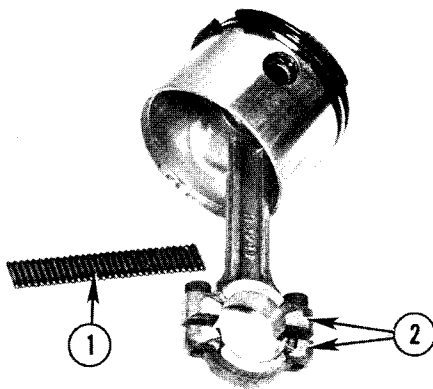

Fig. 41 — Connecting Rod and Piston Assembly
5. Count needle bearings and locate mating marks on connecting rod, Fig. 41.